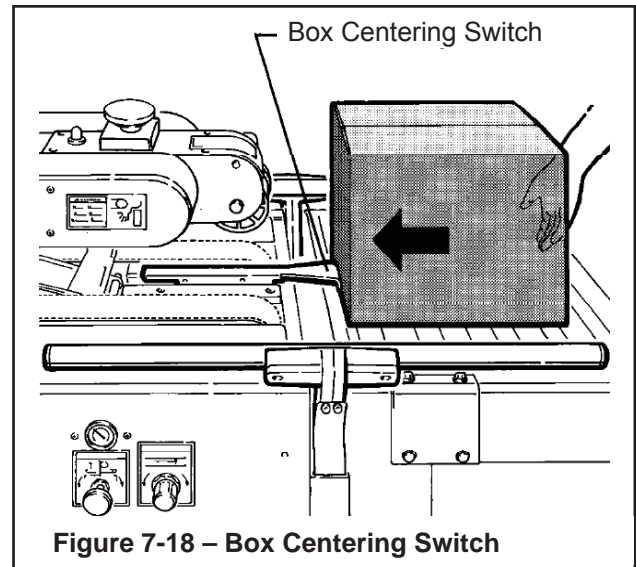

Figure 7-18 – Box Centering Switch
1. A box centering switch in the center of the infeed roller conveyor actuates movement of the centering guides. When the operator pushes a box onto the infeed conveyor, as shown in **Figure 7-18**, the lever is depressed causing the air cylinder powered centering guides to move inward, thereby centering the box.